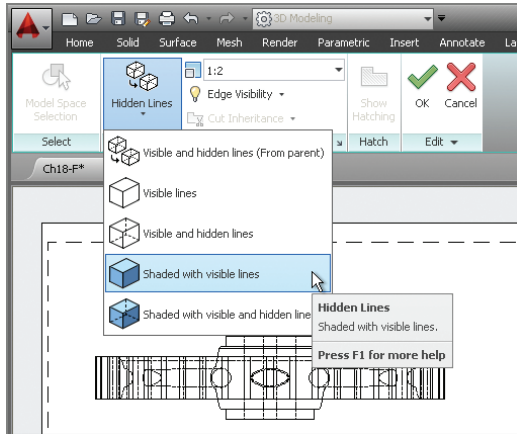

FIGURE 18.23 Changing a view's display properties
9. The isometric view is a bit large. Select it and you will see a red border appear around the view object. Click the Edit View tool on the Layout tab. On the temporary Drawing View Editor tab that appears, change the scale to 1:2. Open the Hidden Lines dropdown, and select Shaded With Visible Lines (see Figure 18.23). Click OK in the Edit panel.